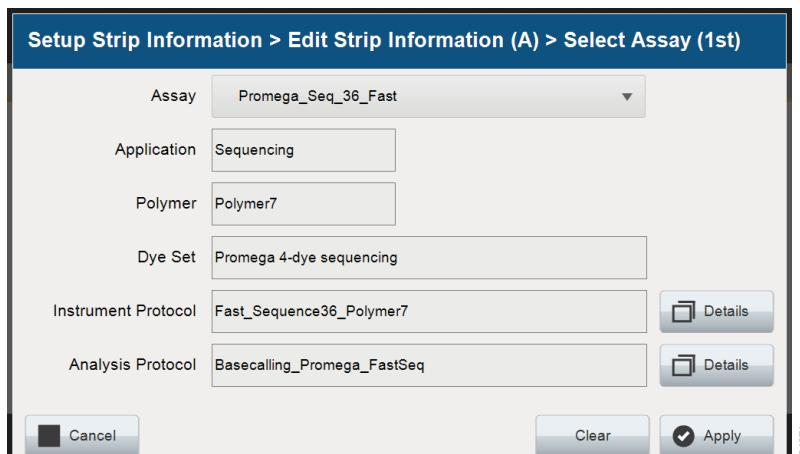
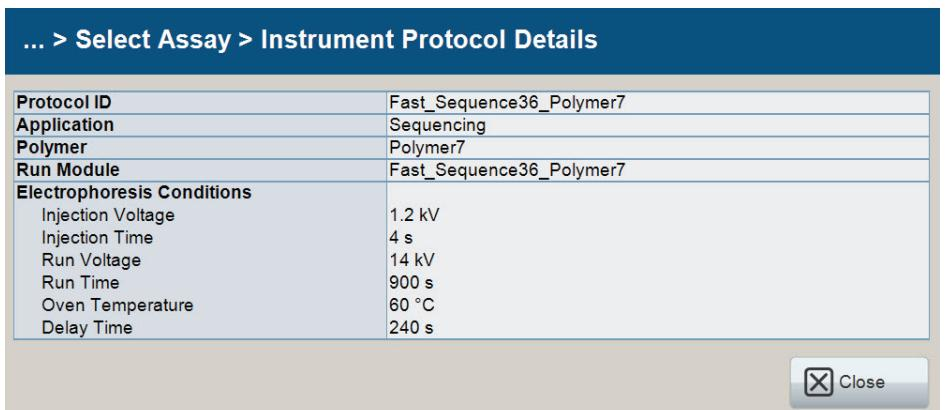
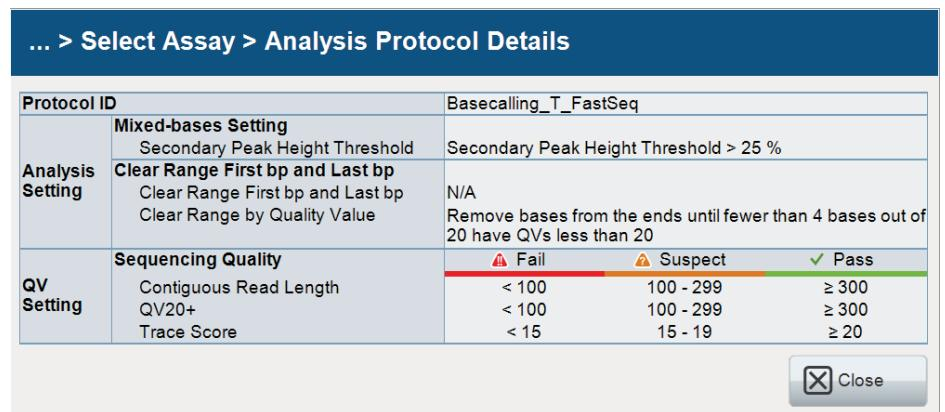

Figure 88. Accessing Instrument and Analysis Protocols on 'Select Assay' screen.
Figure 89. 'Instrument Protocol Details' window.
Figure 90. Sequencing 'Analysis Protocol Details' window.
6. You can verify the settings of the Instrument and Analysis Protocols associated with the assay chosen by selecting **Details** next to these fields (Figure 88). This will display a window showing the settings in these protocols but will not allow you to edit these settings (Figure 89 and Figure 90). To edit the Instrument Protocol or Analysis Protocol, see Section 7. When the assay information is confirmed, select **Apply** to return to the 'Edit Strip Information' screen.